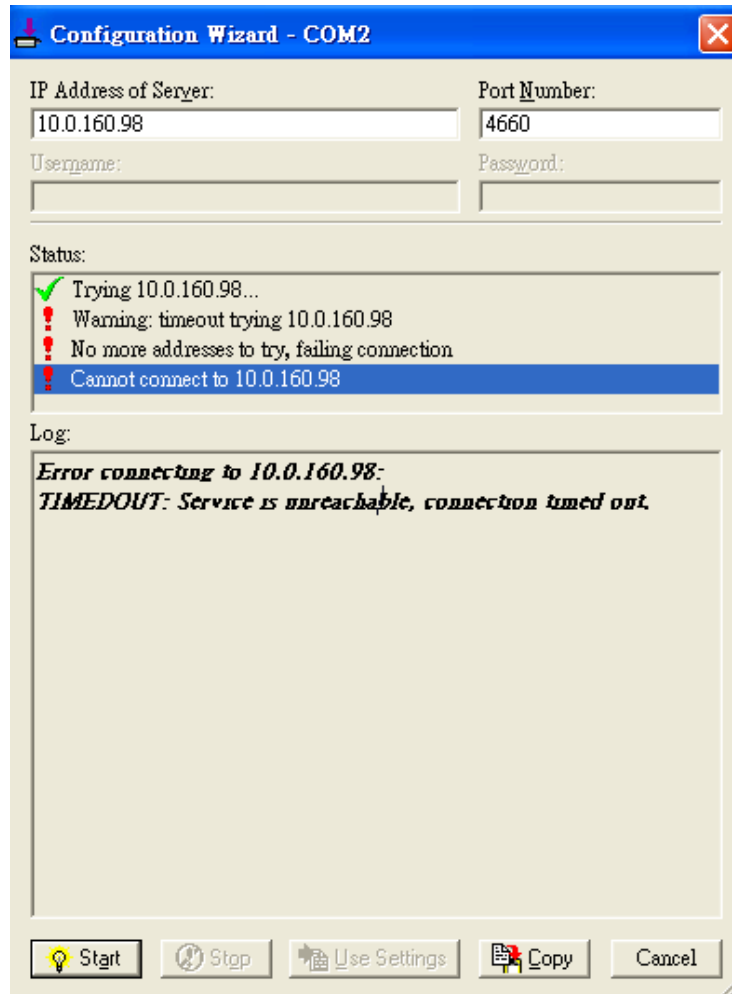

Figure 6.11 Timeout Warning on VCOM Connection
- If the status reports with an exclamation mark with a message "Warning: timeout trying x.x.x.x" as shown in Figure 6.11, please recheck or correct the VCOM IP address and Port number configuration or the PC's network configuration.